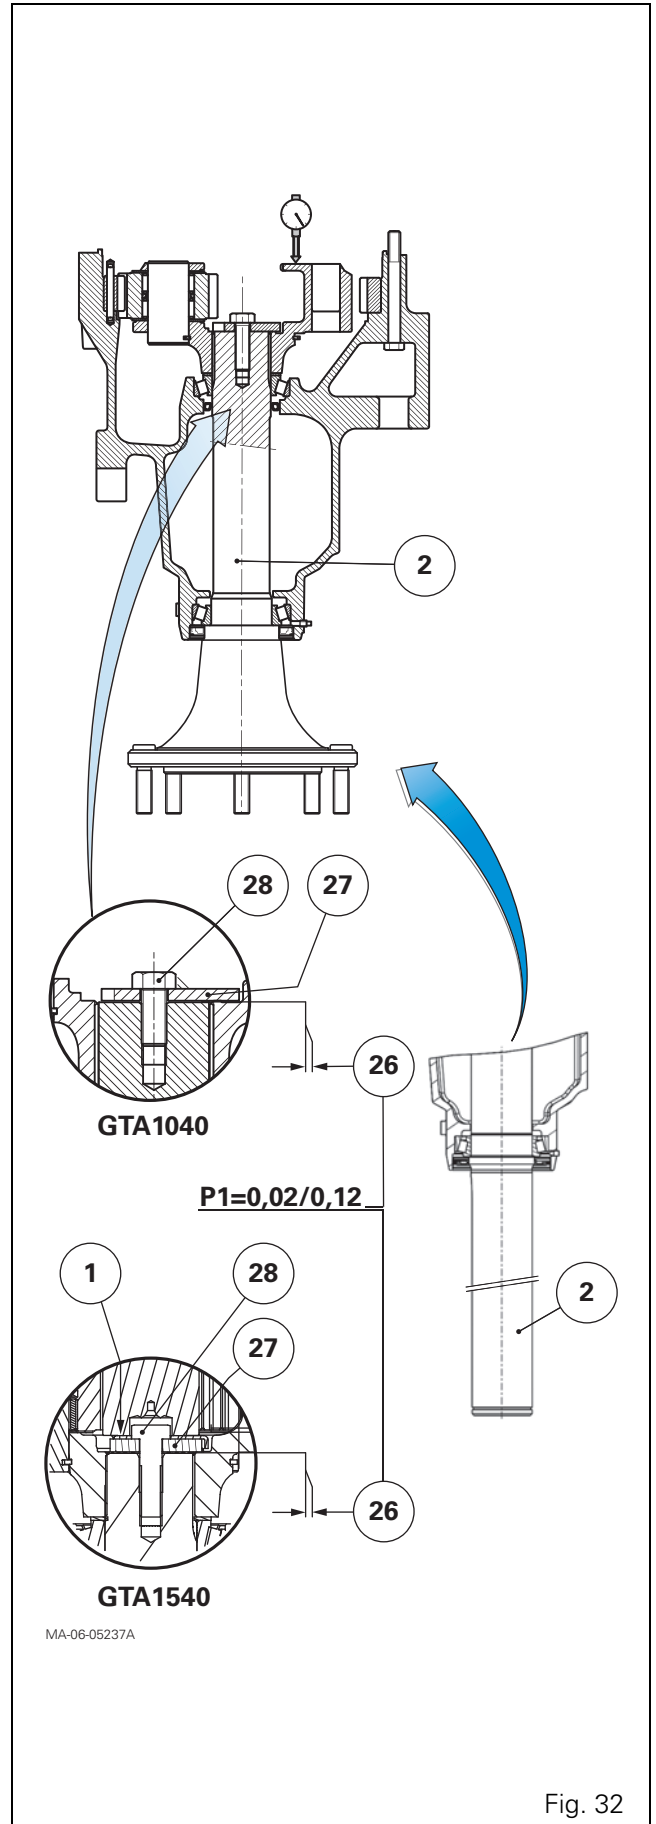

Fig. 32
95. Reduce the shim (26) thickness according to value $J + (0.02 \text{ to } 0.12)$ to obtain a preload $P1 = 0.02 \text{ to } 0.12 \text{ mm}$ (Fig. 32).
97. Definitively fit the tripod washer (27) (Fig. 32).
Lightly smear the thread of the M20 screw (28) (Fig. 32) with Loctite 270 or equivalent. Tighten this screw to a torque of 374-506 Nm.
98. Definitively fit the tripod washer (27) (Fig. 32).
99. Tighten the M20 screw (28) (Fig. 32) to 410 Nm.